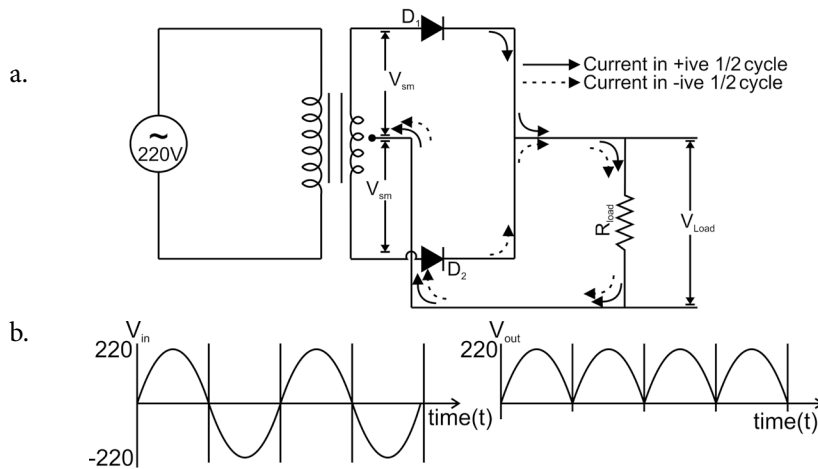

Fig 6.11 Full wave rectifier
In a Half wave rectifier, only one-half cycle is used to convert AC signal to DC signal. If we use a center tapped step down transformer and two diodes then a full wave of AC can be rectified. In a full wave rectifier, the AC signal is given to a circuit with two diodes and one load resistance (R). In the first Half cycle, the first diode is in forward bias and the second diode is in reverse bias. The situation will be reversed in next half cycle. The voltage will appear across resistance R in both half cycles. Fig 6.11 (a) Shows the circuit of full wave rectifiers. The input and out waveform is also displayed in Fig 6.11(b). The voltage appearing on the R is variable DC voltage and further given to filter circuits to convert variable DC into constant DC.